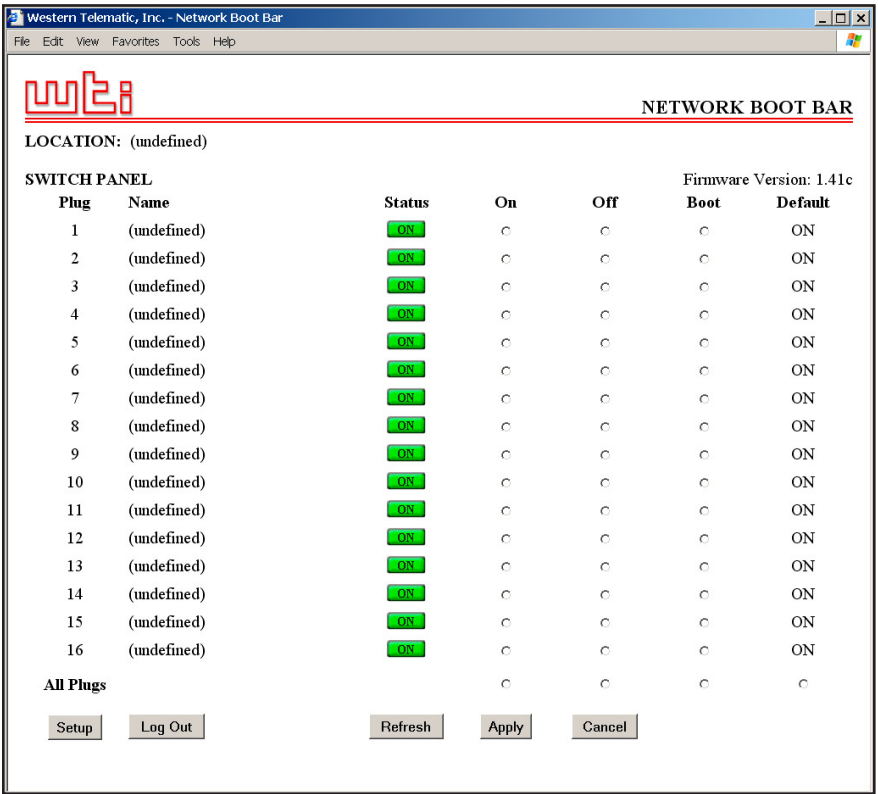

Figure 3.1: Plug Status Screen - Web Browser Interface
- a) **Web Browser Interface:** Start your Web Browser. Enter the NBB's default IP address (192.168.168.168) in your browser address bar and press **[Enter]**. A password prompt will be displayed. Since at this point, the user name and password have not yet been defined, you can simply click OK in response to the prompt. The Plug Status Screen will be displayed as shown in Figure 3.1.